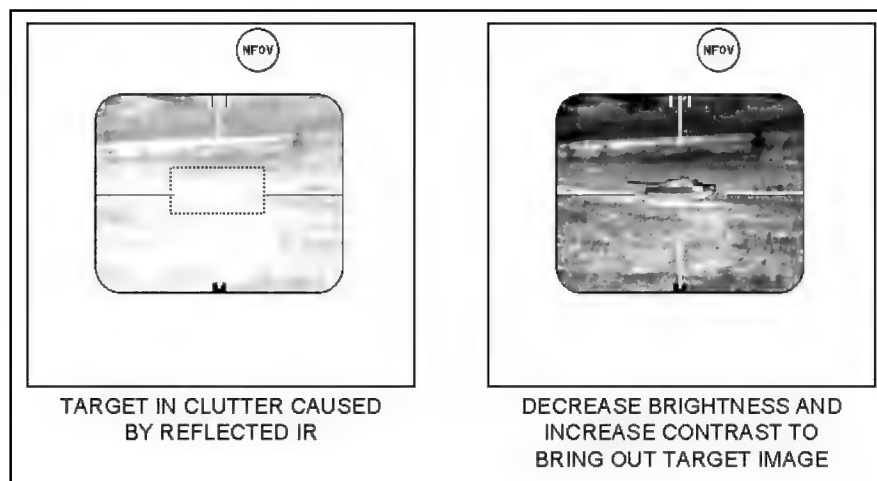

Figure E-27. Defeating clutter caused by reflected IR.
- Clutter from reflected IR. When reflected IR causes IR clutter, the clutter comes and goes randomly with the appearance of the sun, and at different locations. (This can cause the gunner to suddenly lose a target that was visible or make a target appear suddenly that was hidden from him.) Its appearance is such that the target and the clutter look like one large area of uniform temperature (Figure E-27, page E-18).